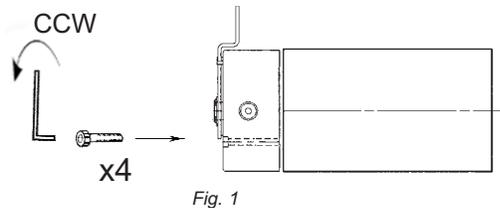

Fig. 1
2. Remove four brake mounting screws (*Fig. 1*), and slide brake off drive hub (10).